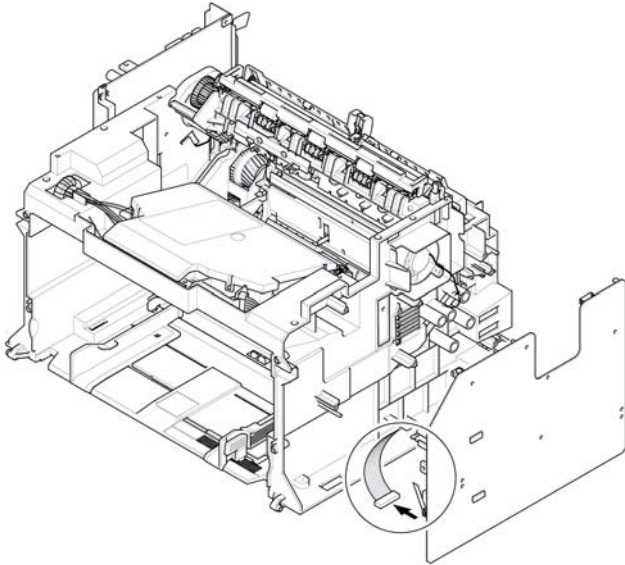

Figure 2
4. Unplug the Connector from the HVPS, Figure 2.